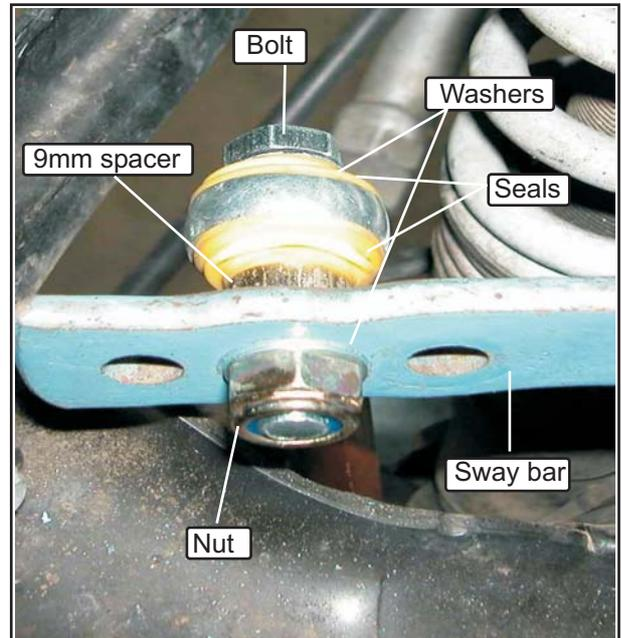
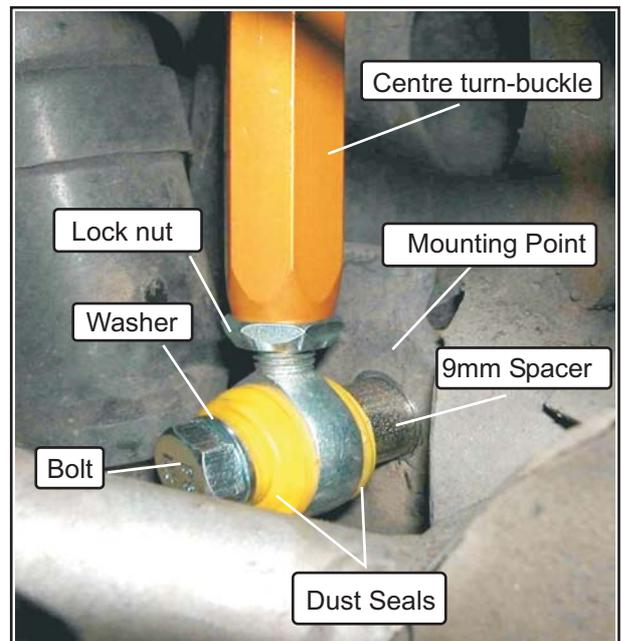

Fig 1. KLC006. Sway bar mount - Top.
Fig 2. KLC006. Suspension mount - Bottom.
3. Assemble link, placing dust seals and spacers as shown in figs.1&2.
Link to sway bar mount shown in fig.1. Link to suspension mount shown in fig.2.